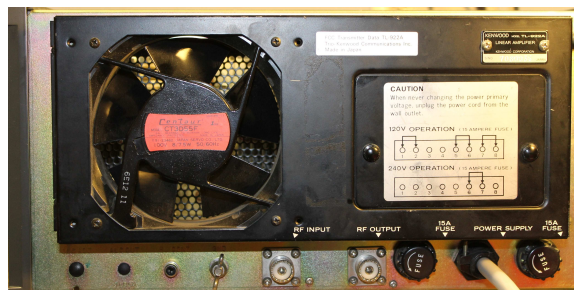

Figure 2.5: Rear Fan Enclosure
- Remove the four screws holding the fan enclosure (Figure 2.5).
- Re-install the fan enclosure (Figure 2.5).